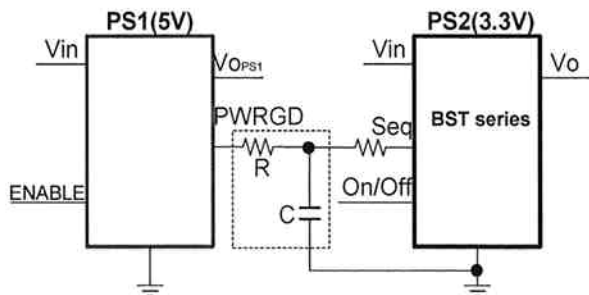
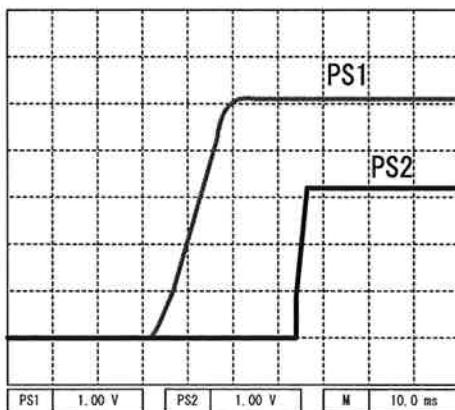
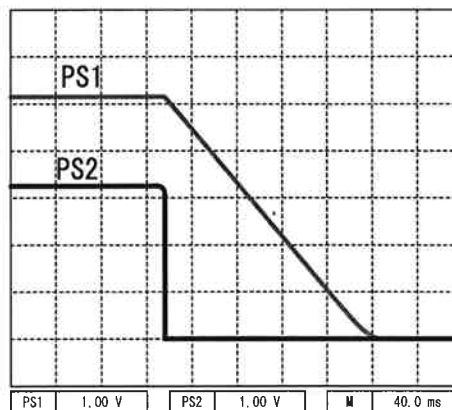

Figure 13 Example for Sequential operation connection
Figure 14 Sequential operation (Power-Up)
Figure 15 Sequential operation (Power-Down)
Sequential operation is shown in figure 13. By composing a circuit of PWRGD signal from PS1(5V) with components such as resistance-capacitor etc. inside the dotted line, the control voltage will be input to Seq pin of PS2(3.3V). Figure 14 and 15 show the wave form at operation. Figure 14 (Power-Up) shows a wave form of ; power-up the PS1(5V) first, and once the PS1(5V) reaches a stable voltage, PWRGD signal of PS1 will be output. Then time constant will be generated by the time constant circuit composed of components such as R-C etc. inside the dotted line, and will be input to Seq pin of PS2(3.3V) and control the PS2(3.3V). Figure 15 (Power-Down) shows the wave form of PS1 (5V) output voltage using the off signal which has been output at approximately 90% or below the rating voltage and off-controlling the PS2(3.3V).
- Time constant circuit (C-R) inside the dotted line of figure 13 is a block diagram. In practical use, compose a circuit which suits the practical usage.